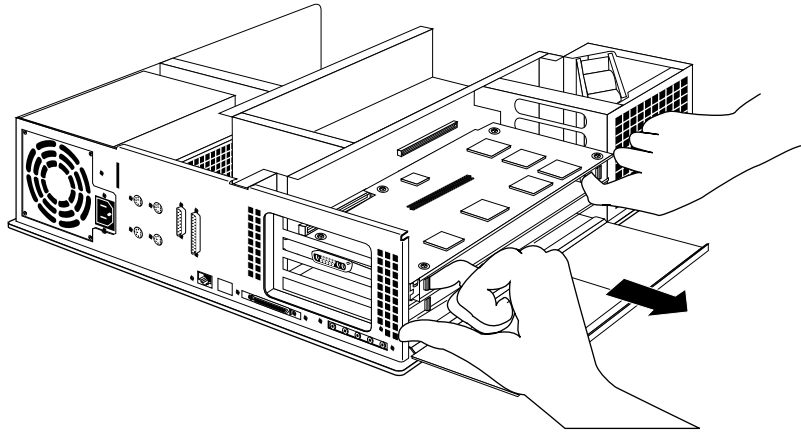

Figure 5-58 Removing the Board Set
6. Pull the XZ or Extreme board set out of the workstation, as shown in Figure 5-58.